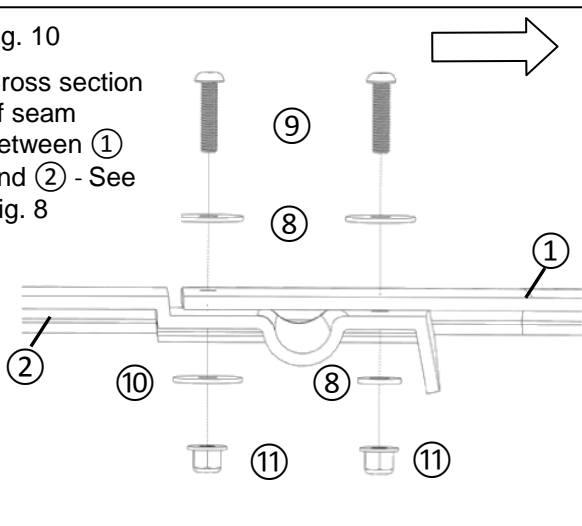
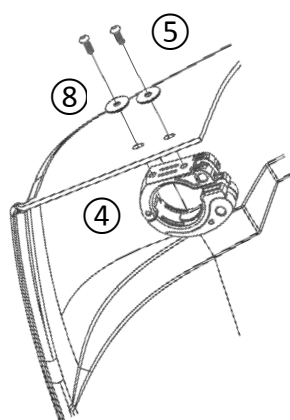

Fig. 11
Fig. 12
16. From the underside of the roof, install one flat washer (⑩) and one nylock nut (⑪) to each screw in the row closest to the front end of the vehicle.
17. Install a fender washer (⑧) and nylock nut (⑪) to each remaining screw (Fig.). Torque nylock nuts to 6 Nm (0.6 m • kgf, 4.3 ft • lbf).
18. Use Fig. 2 to locate the two rear mounts marked by "triangle" areas. Install a clamp (④) without adapter with two M6 x 16 mm screws (⑤), and two fender washers (Fig. 11) with the end of the clamp lever pointing to the back when closed. See Fig. 11 and Fig. 12 for more detailed views of the mount location and position. Torque to 4.5 Nm (46 cm • kgf, 40 in • lbf).